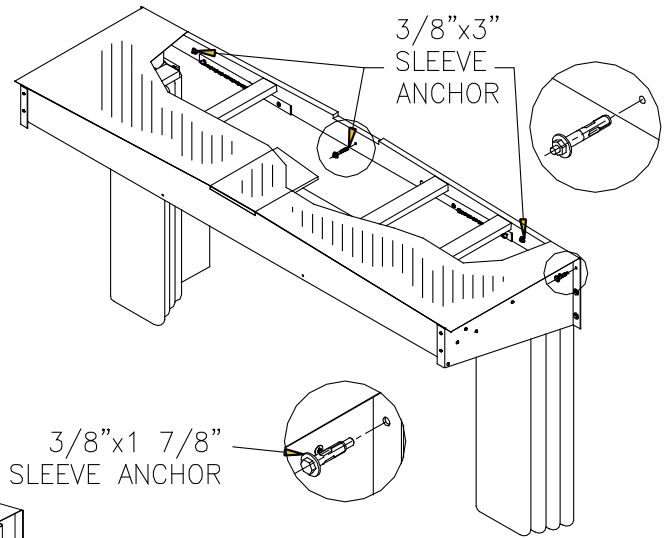

FIG. 7b
- Insert 3/8" x 3" sleeve anchor into holes (Fig. 7b).
- Tighten and secure using 1/2" socket driver bit (Fig. 7b).